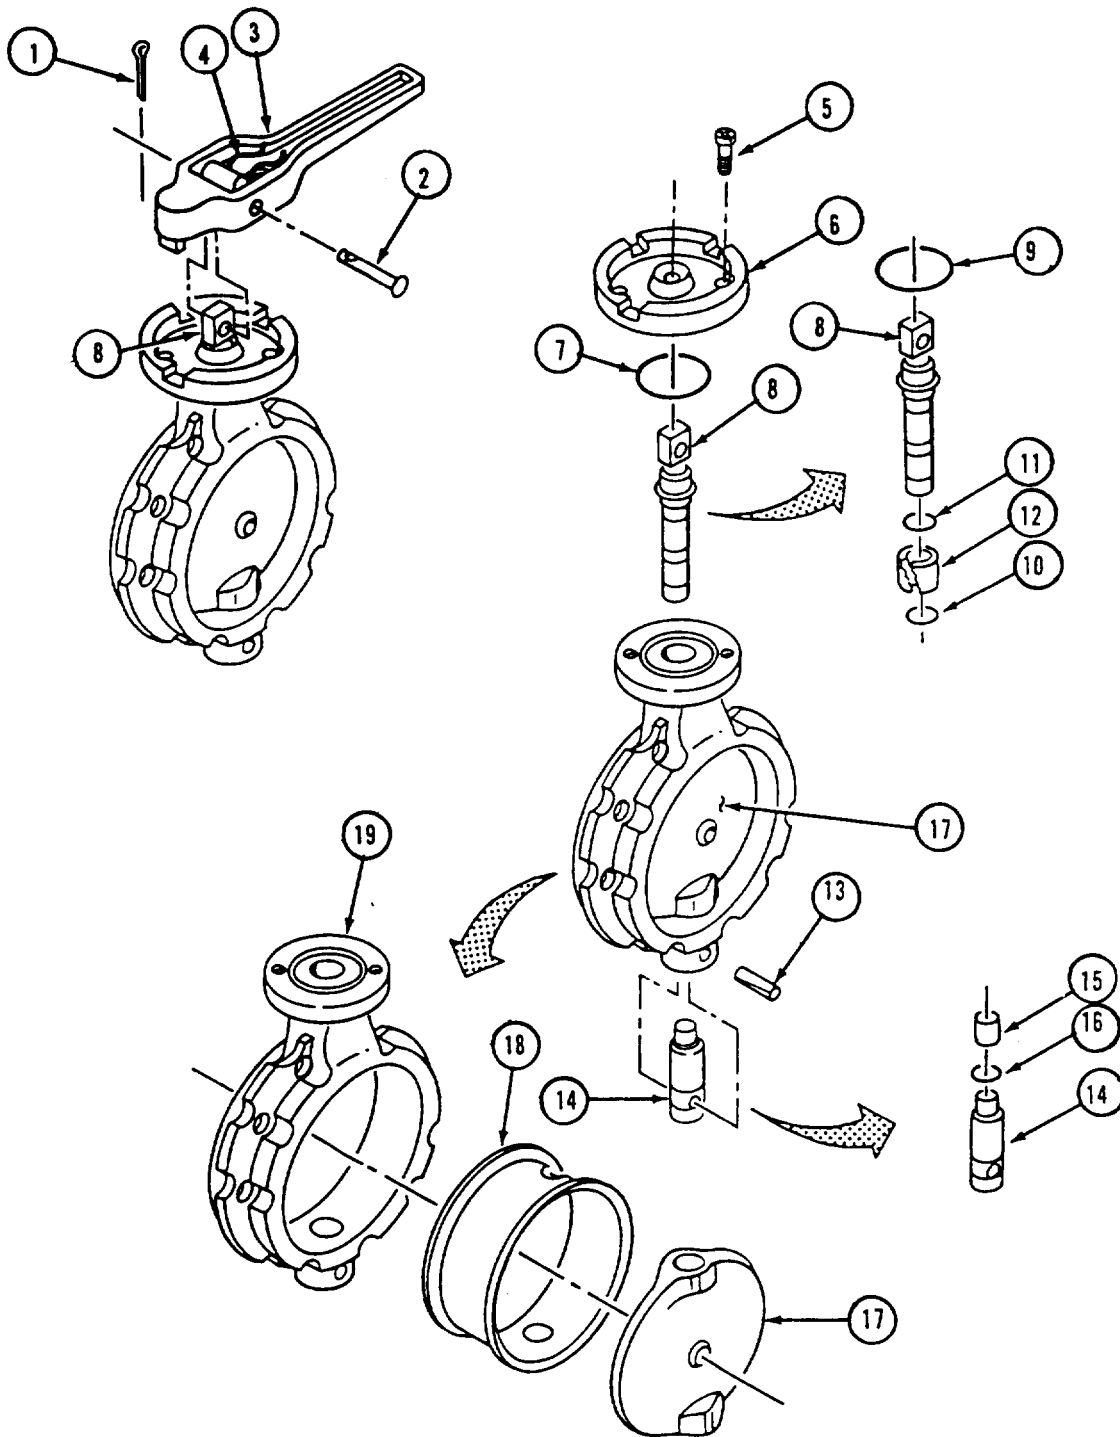

Figure 3-10.2 Butterfly Valve Repair
Butterfly valve disassembly. Refer to figure 3-10.2
- 2 Inspect body (19, figure 3-10.2), handle (3), disc (17) and stop plate (6) for cracks and corrosion.
- 3 Inspect top stem (8) and bottom stem (14) for cracks, deep scratches and corrosion.
3-11.1 MAINTENANCE OF BUTTERFLY VALVE ASSEMBLYcont.e. Assembly.**Butterfly valve assembly. Refer to figure 3-10.2**